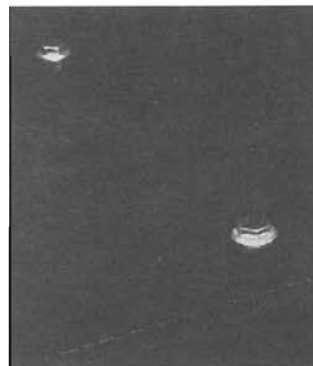

Figure 3: Hex Cap Bolt
- Open the front hinged door and locate the four bolt holes at the bottom. Feed the four 1/4" hex cap bolts with washers into these holes and tighten them down to attach the top to the bottom. (Figure 3)